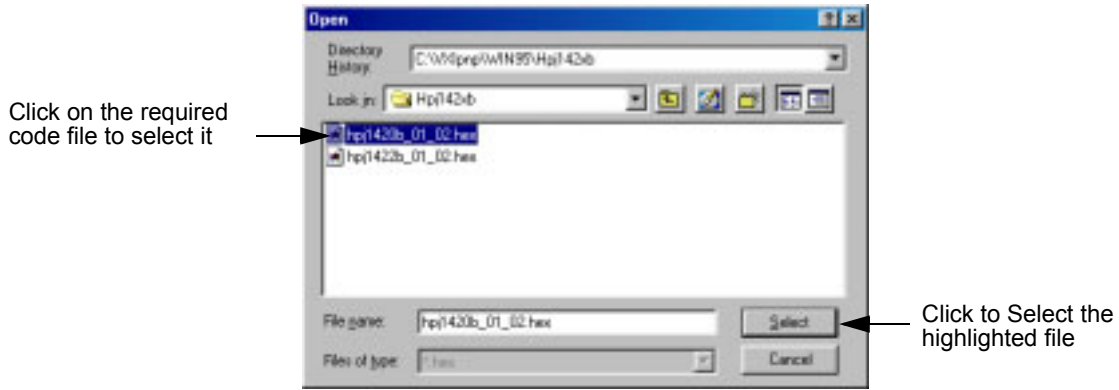

Figure 7-3. Firmware Code File Selection
3. Select the Firmware Code File by using the **Browse** button to display the File Selection window shown in Figure 7-3.